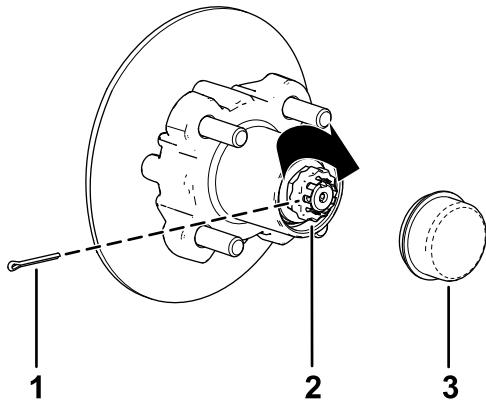

Figure 36
8. Install the retainer over the nut and check the alignment of the slot in the retainer and the hole in the spindle for the cotter pin (Figure 36).
9. Install the cotter pin and bend each legs around the retainer (Figure 36).
10. Install the dust cap onto the hub (Figure 36).